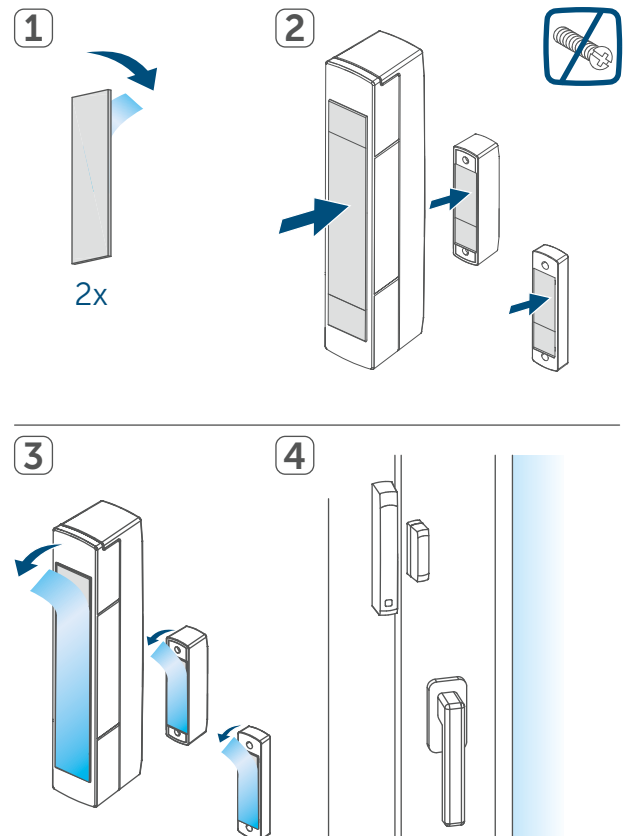

Figure 11
- Attach the large double-sided adhesive strip to the back side of the bracket (H) and press the device onto the desired position (see „Figure 11“).
Attach the small double-sided adhesive strip to the back side of the magnet contact (**I**) (see figure 11) and press the magnet contact onto the desired position of the window.